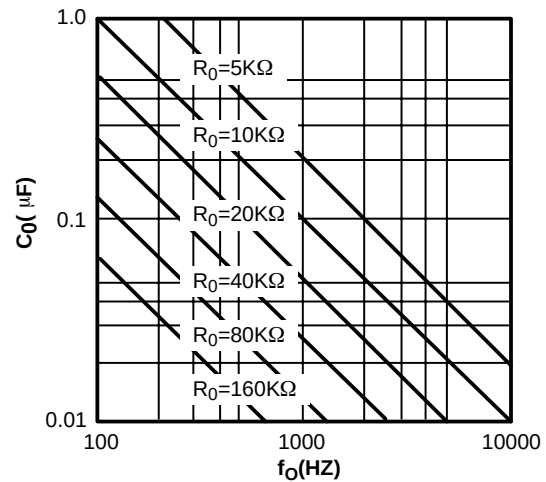

Figure 6. VCO Frequency vs. Timing Resistor
VCO Timing Capacitor (Pins 13 and 14): VCO frequency is inversely proportional to the external timing capacitor, C_0 , connected across these terminals (see *Figure 6*.) C_0 must be non-polar, and in the range of 200pF to 10μF.
- Calculate value of C_0 from design equation (1) or from *Figure 6* $f_S = f_O$: